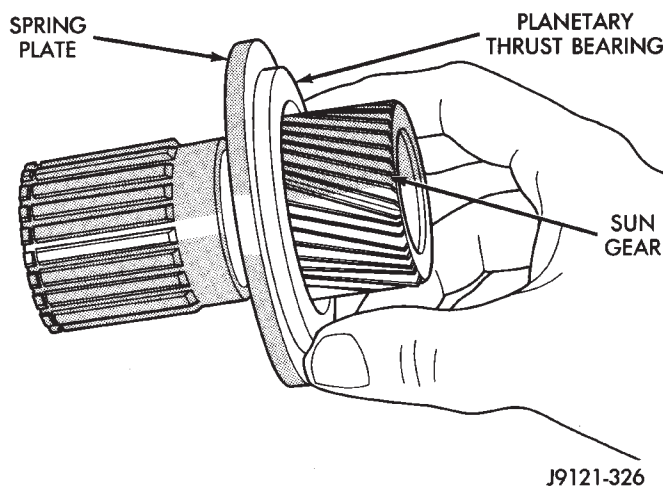

Fig. 218 Planetary Thrust Bearing Installation
(13) Install planetary thrust bearing on sun gear (Fig. 218). Slide bearing onto gear and seat it against spring plate as shown. **Bearing fits one way only. If it does not seat squarely against spring plate, remove and reposition bearing.**